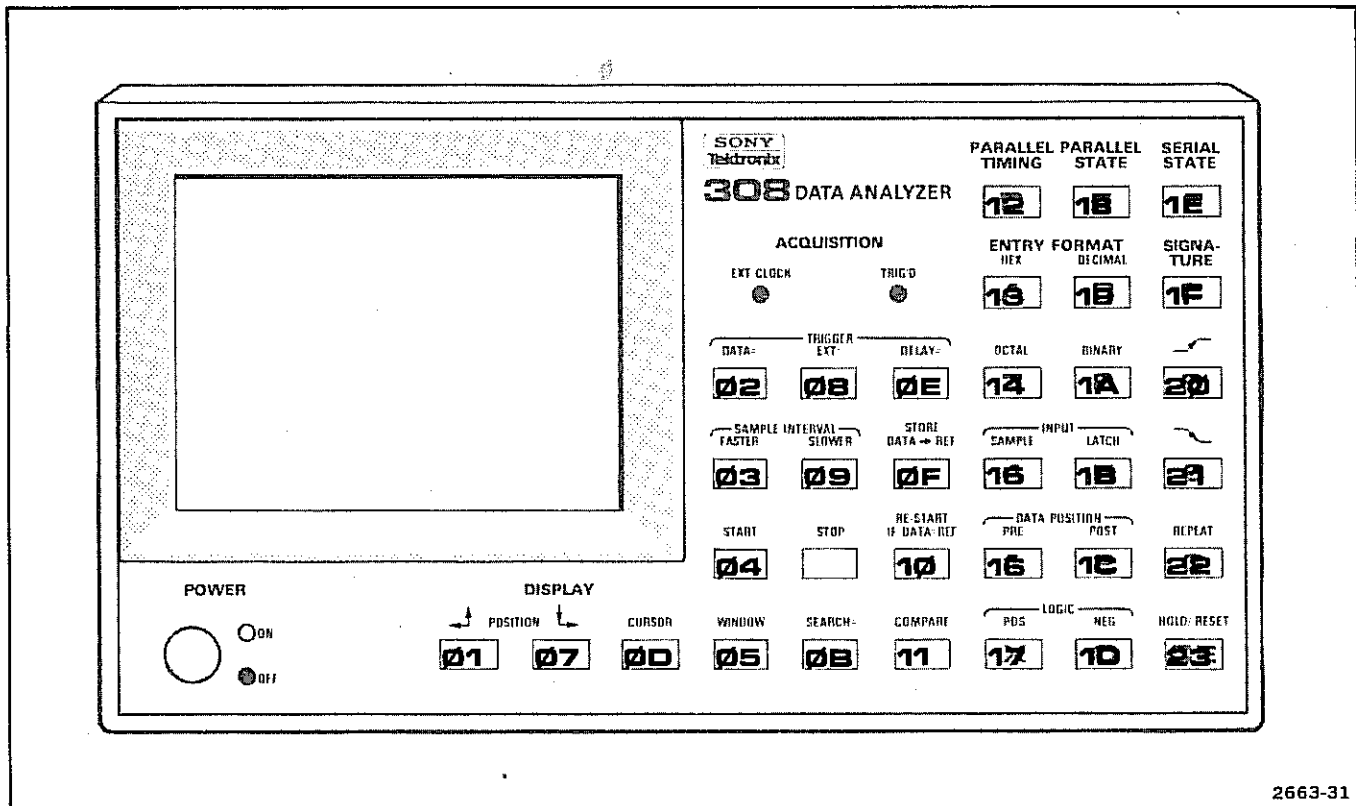

Figure 19. Diagnostic 0 Keyboard Code.
Diagnostic 0, Keyboard Check, is initiated by pressing Entry key 0 then pressing each keyboard key (except **STOP**) in any order while cross-checking the number displayed on the screen against the key number pressed (Figure 19). After all keys have been checked, press **STOP** to end this diagnostic routine and return to the Diagnostic Menu.